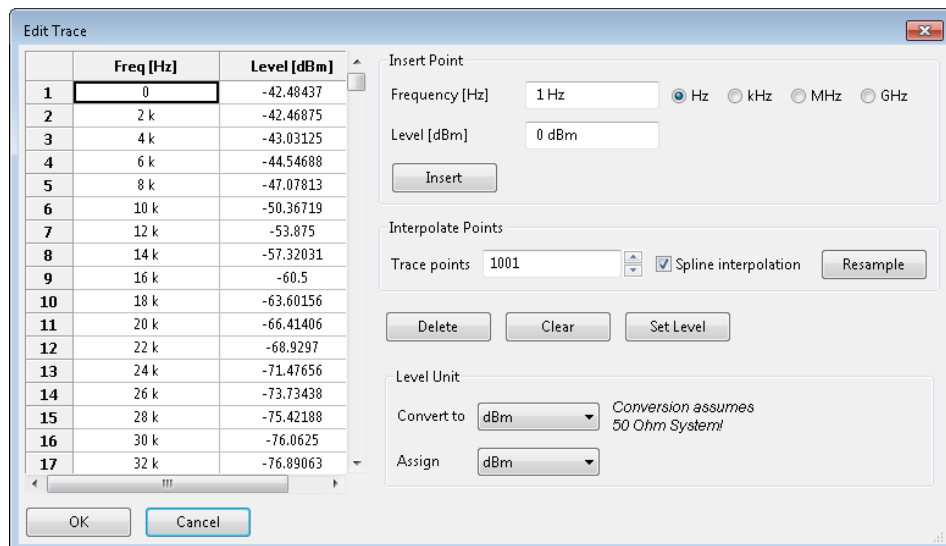

Figure 3.7.: Dialog to manipulate data points of a trace
**New, edit:** You can create a new trace and you can also edit any existing trace. When pressing the appropriate button of either of these operations a subsequent dialog enables you to manage all data points of a specific trace (see fig. 3.7). You can insert new points by providing an x- and an y-value, you can change the level of all selected points at once to the level value you provided in the INSERT POINT section by pressing the SET LEVEL button, you may delete any number of existing points and you may clear all points. You can resample the trace points you inserted so far by entering a number of target trace points and pressing the RESAMPLE button. If you have enabled the checkbox SPLINE INTERPOLATION the resampling is done using spline interpolation, else linear interpolation is used. Furthermore you can convert the y-values of a trace to a new unit, if there exists a specific conversion. You can also assign a new x- or y-unit to any trace. This will leave the values of the trace unchanged. If you finished all manipulations to data points make sure to press the OK button to apply all changes. Pressing the CANCEL button will abort the operation.